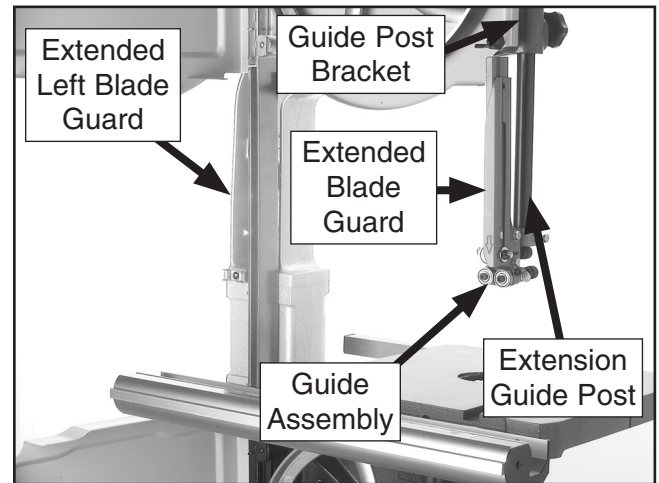

Figure 6. Extension block components.
10. Install the extended left blade guard, as shown in **Figure 6**, using the fasteners removed in **Step 3**.